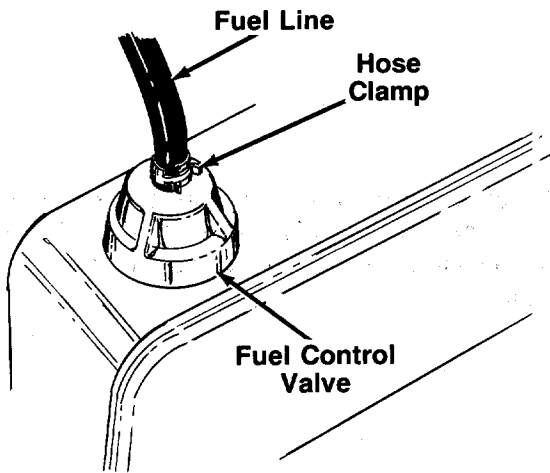

FIGURE 7.
11. Place the end of the fuel line over the fuel control valve already installed on the engine. Secure by squeezing the tabs of the hose clamp (already on the fuel line) and sliding it down over the fuel control valve. See figure 7.